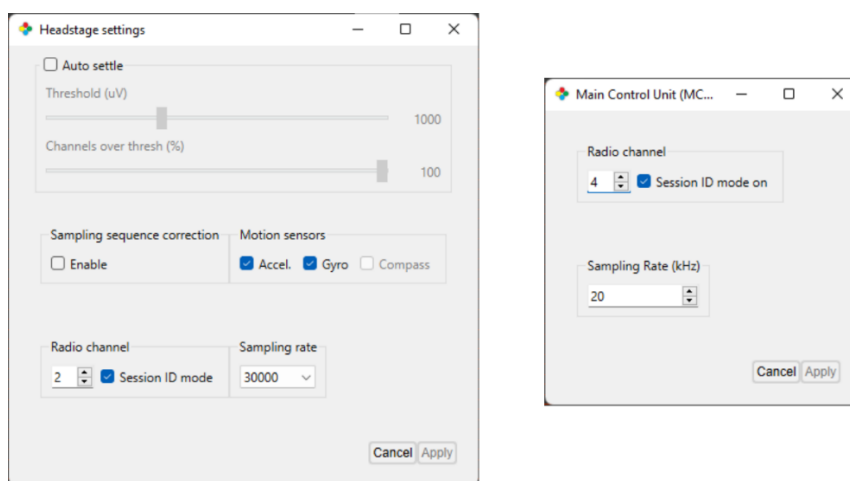

Figure 6 | Headstage and MCU RF channel, sampling rate and session ID mode
3. Under the "Settings" dropdown menus, set the MCU and headstage RF channel and sampling rate to the same values and select the session ID mode checkbox for both (Fig. 6):